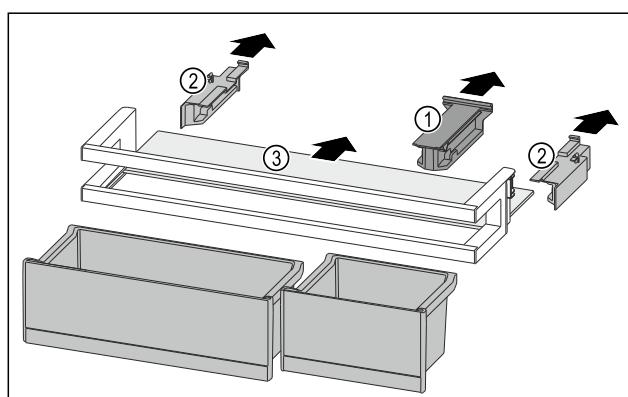

Fig. 195
- ▶ Pull off the holding part Fig. 195 (1).
- ▶ Pull off the side parts Fig. 195 (2).
- ▶ Remove the shelf Fig. 195 (3).